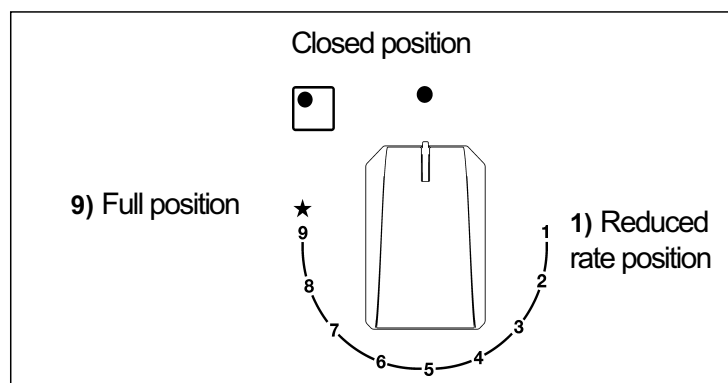

FIG. 17
Push and turn the knob corresponding to the required burner in an anticlockwise direction until it reaches the full on position of full  (position 9 fig. 17), then depress the knob, the tap is equipped with a scale of 9 positions, with each click the flame is reduced until you reach the position of 1, ie the minimum supply of gas.
The knobs of burners equipped with flame failure device must be turned in an anticlockwise direction until they reach the full on position (Position 9, fig. 17) and come to a stop. Now depress the knob in question and repeat the previously indicated operations.
- When the pan comes to the boil, set the knob to the reduced rate position (Position 1, fig. 17).
- **Burners with flame failure device may only be ignited when the relative knob has been set to the Full on position (Position 9, fig. 17).**